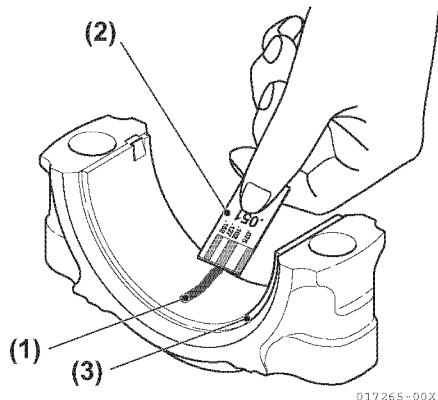

Figure 5-99
- Remove the connecting rod and measure the plastic gauge with measuring paper (**Figure 5-99**).